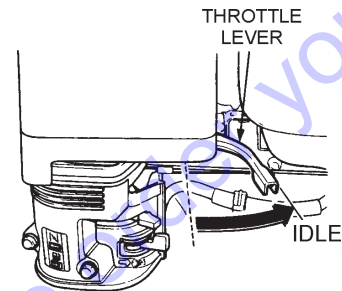

Figure 15. Throttle Lever (Idle)
- Move the throttle lever to the **IDLE** position (Figure 15) and run the engine for three minutes at low speed.